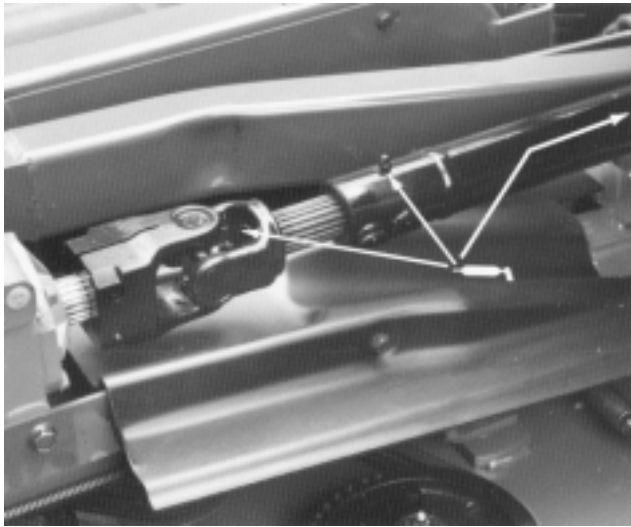
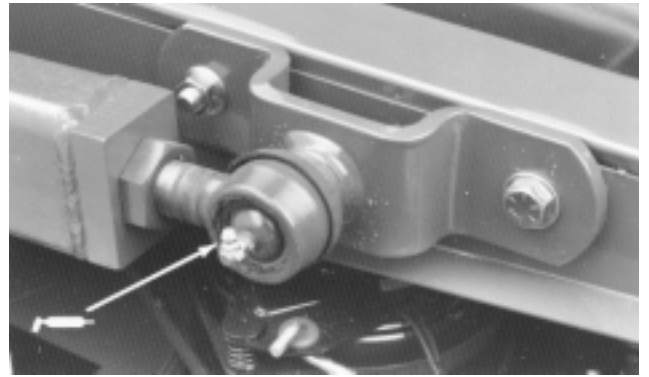
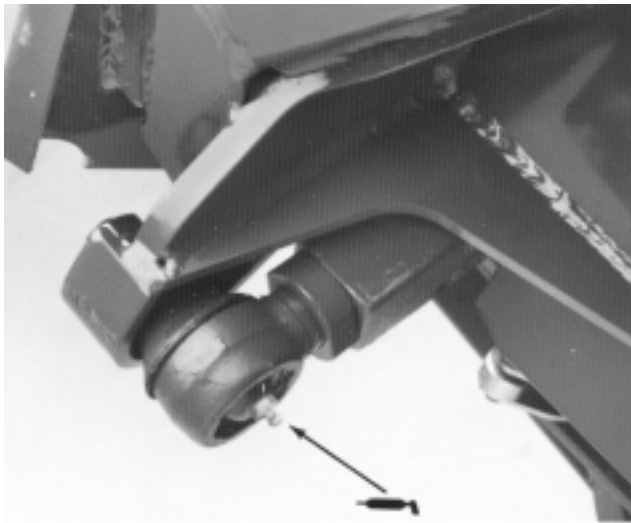

Figure 34
Figure 36
Figure 35
Cutting deck (2 & 4 wheel drive machines)—blade spindles (7), lift cylinder ball joints (4) and wing deck pivot pins (4) (Fig. 32); castor fork shaft (4) (Fig. 33); PTO to gear box drive shaft assembly (3) (Fig. 34); wing deck ball joints (4) (Fig. 35), and lift arm ball joints (2) (Fig. 36).